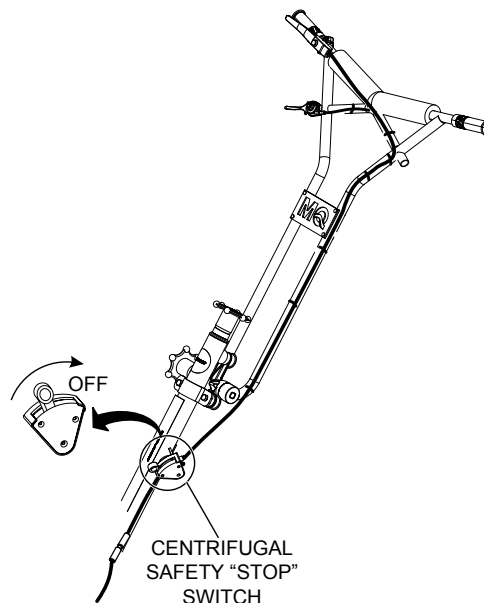

**Figure 24. Choke Lever Closed**
6. If the engine has started, slowly return the choke lever (Figure 24) to the **CLOSED** position. If the engine has not started repeat steps 1 through 5.